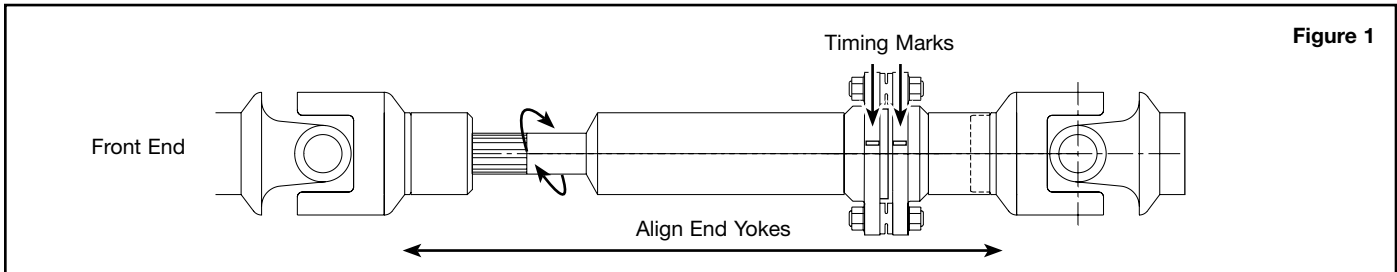

Figure 1
2. Turn the front of the driveshaft to line up the timing marks on the Power Train Saver flanges. (Figure 1).